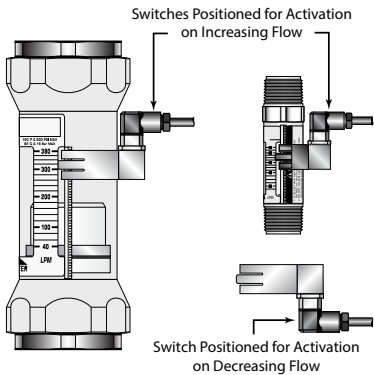

Figure 12: Switch position
- 2. Install the switch by placing the adjustment arm over the serrated rail from the inlet end of the 1/2 in. (12 mm), 3/4 in. (19 mm) and 1 in. (25 mm) meters, or the outlet end of the 1-1/2 in. (38 mm) or 2 in. (50 mm) meters. The direction of the connector and cable assembly indicates whether the switch will activate on increasing flow (connector and cable pointing down) or decreasing flow (connector and cable pointing up). See *Figure 12*. Secure the other end of the vibration locking kit and tighten after positioning.